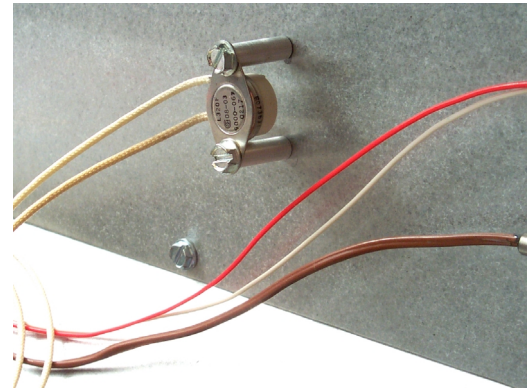

Figure 4: The hi-limit is shown mounted on its standoffs.
13. Mount the hi-limit with the spacers, providing a stand-off from the panel. See Figure 4.